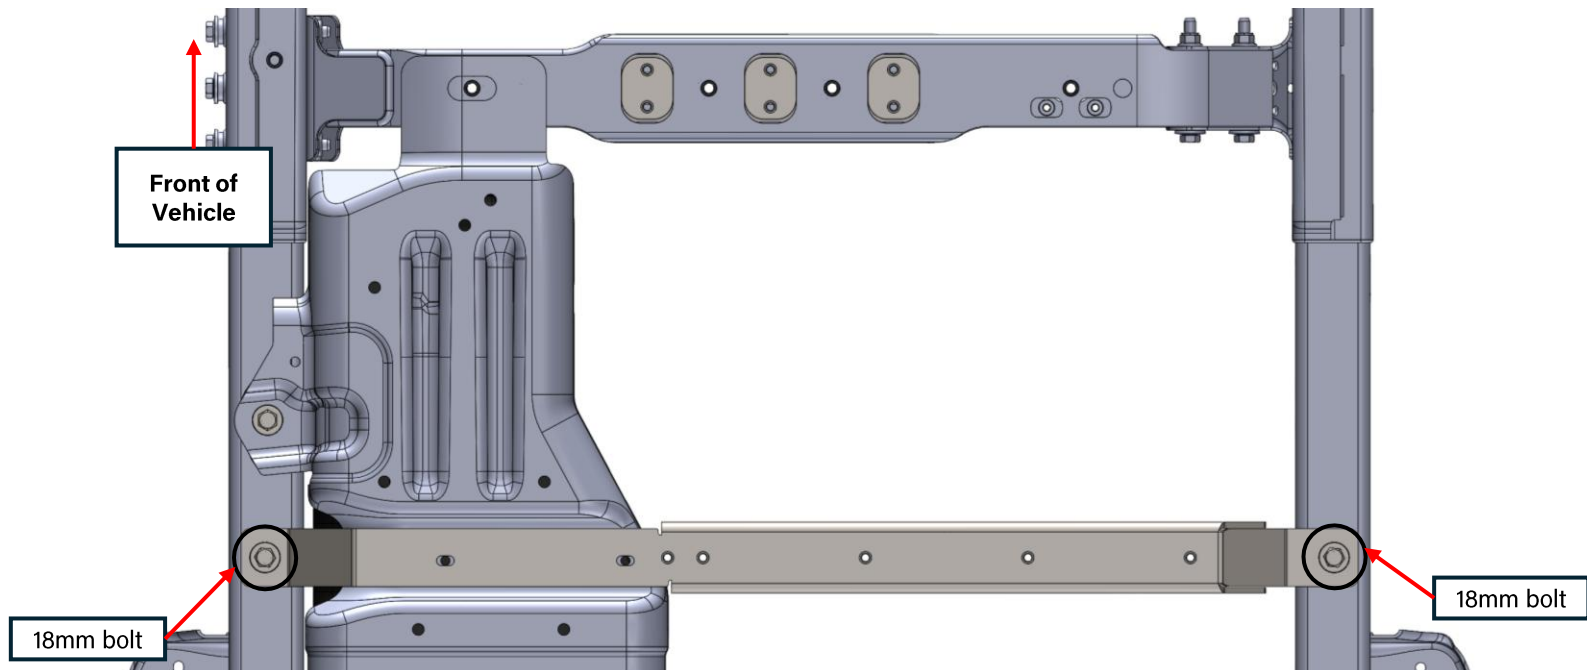

Figure 5: Skid support member loosely attached to frame
4. Loosely attach the new skid support member to the underside of the vehicle. Use x2 18mm bolts that were removed from Step 2 at either frame rail location. **If you are only installing the transfer case skid plate, the skid support member feeds underneath the OEM gas tank skid plate.** See Figure 5 below.